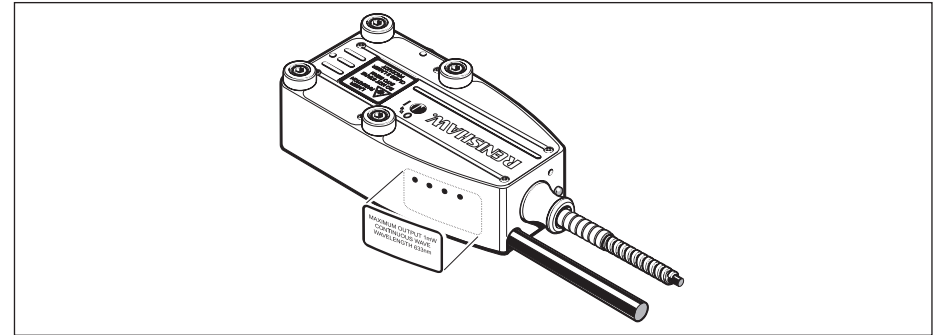

Figure 72 Position of potentiometers on RLD head
8. If you do not have 1 V signal strength, it can be adjusted using the two potentiometers located on the side of the detector head. The gain adjusters are the two holes A and B shown in Figures 72 and 73. Take care when adjusting the potentiometer, as they are delicate electronic components.